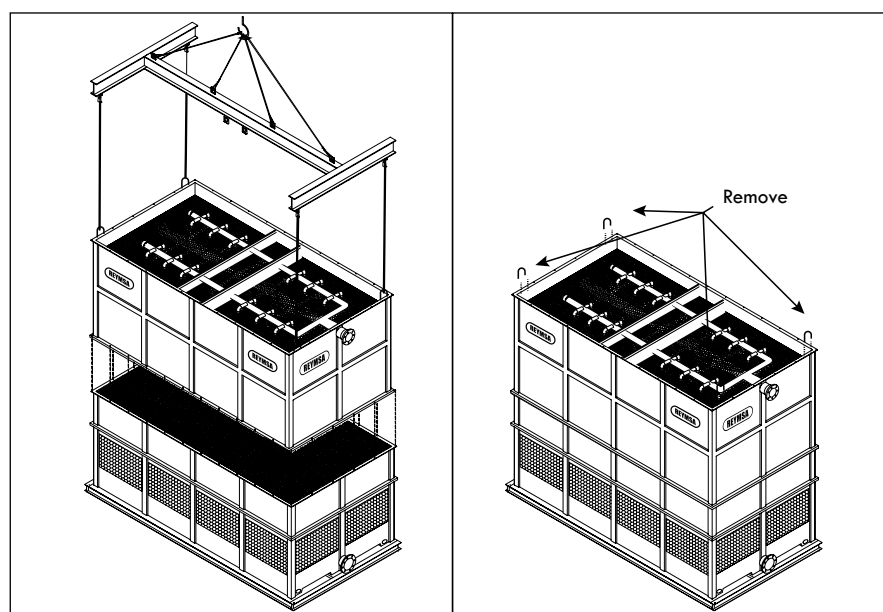

Figure A-50: Upper Body section installation for an RTG-D, RTG-E, RTGTC-G or RTGTC-H models.
- L.** Assemble the body section (Upper Body section for RTG-D, RTG-E, RTGTC-G or RTGTC-H) with the basin section (Lower Body section for RTG-D, RTG-E, RTGTC-G or RTGTC-H). The body section comes assembled with u-bolts for lifting; then using a crane assemble both parts, use a drift pin to align bolt holes as the sections are being set (See figure A-50). Make sure that the hot water inlet, and the cold water outlet are on the same side of the Tower when assembled.
- M.** After installing the body, remove the U-bolts before installing the Fan Deck (see Figure A-50).